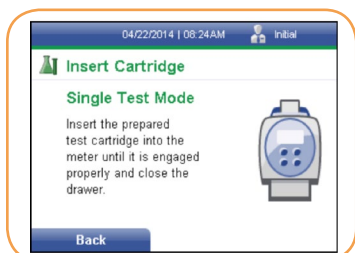

FIGURE 103
12. The *Insert Cartridge* screen will be displayed (Figure 103).